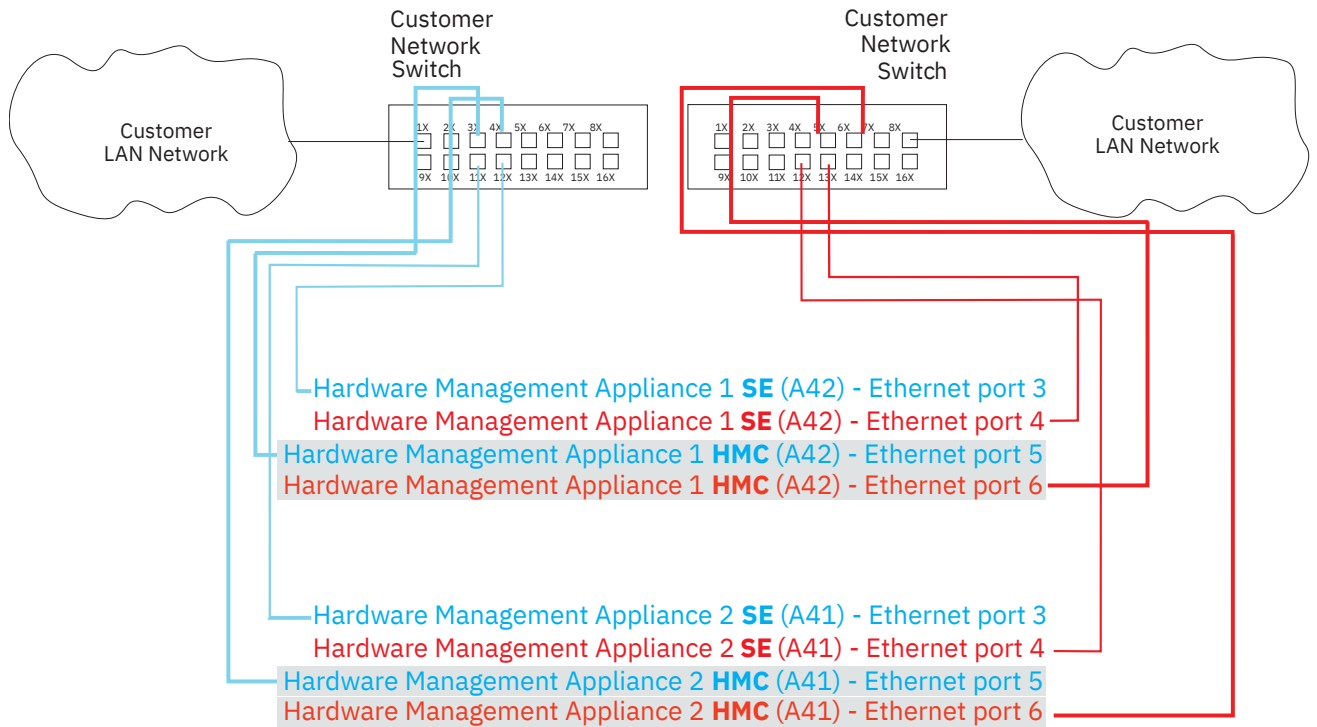

Figure 16. Two-switch configuration with Hardware Management Appliance (FC 0129)
If the Hardware Management Appliance feature (**FC 0129**) is ordered on the 3932, the dual 1U servers function as a Support Element (SE) and a Hardware Management Console (HMC). See Figure 16 on page 101 for network connection requirements.